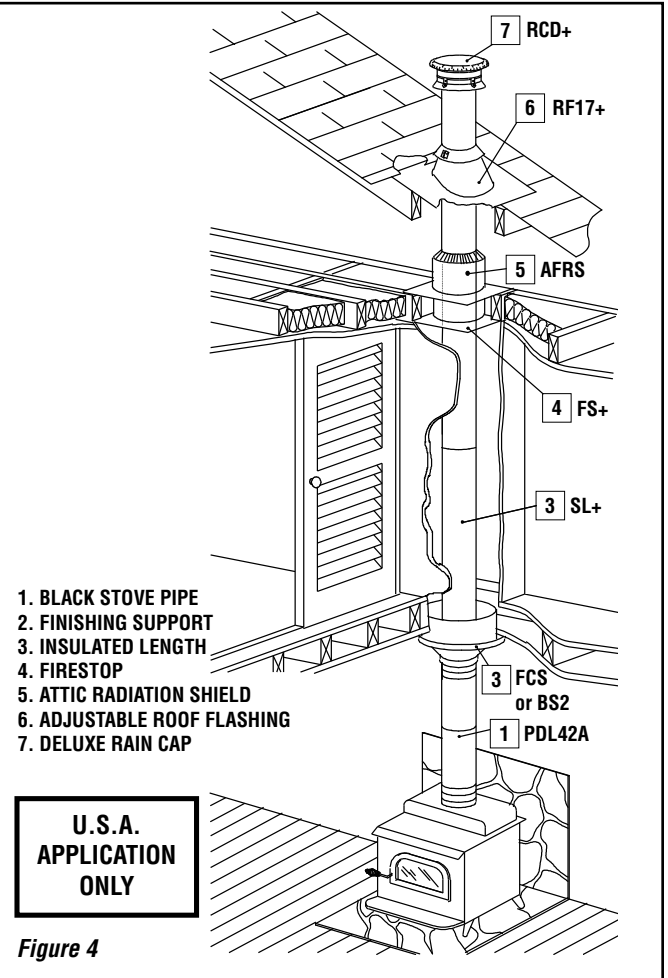

Figure 4
Step 4. Put this first chimney length in the support. Turn it clockwise to lock it in place (see figure 4).